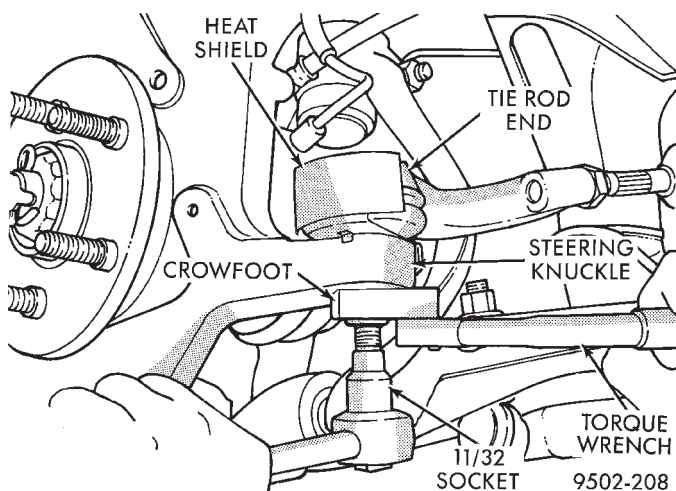

Fig. 52 Torquing Tie Rod End Attaching Nut
CAUTION: When installing tie rod on steering knuckle the heat shield (Fig. 52) must be installed. If heat shield is not installed, tie rod seal boot can fail due to excessive heat from brake rotor.
(7) Install tie rod end into the steering knuckle. Start tie rod end to steering knuckle attaching nut onto stud of tie rod end. While holding stud of tie rod end stationary, tighten tie rod end to steering knuckle attaching nut (Fig. 44). Then using a crow-foot and 11/32 socket tighten the attaching nut to a torque of 61 N·m (45 ft. lbs.) (Fig. 52).